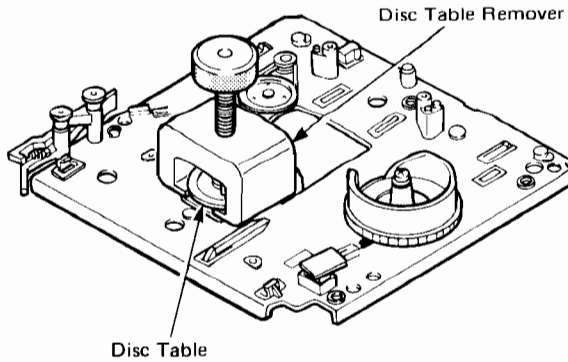

Fig. 4
- a. With the disc table remover (Part No. TX913000) used as shown in Fig. 4, remove the Disc Table.